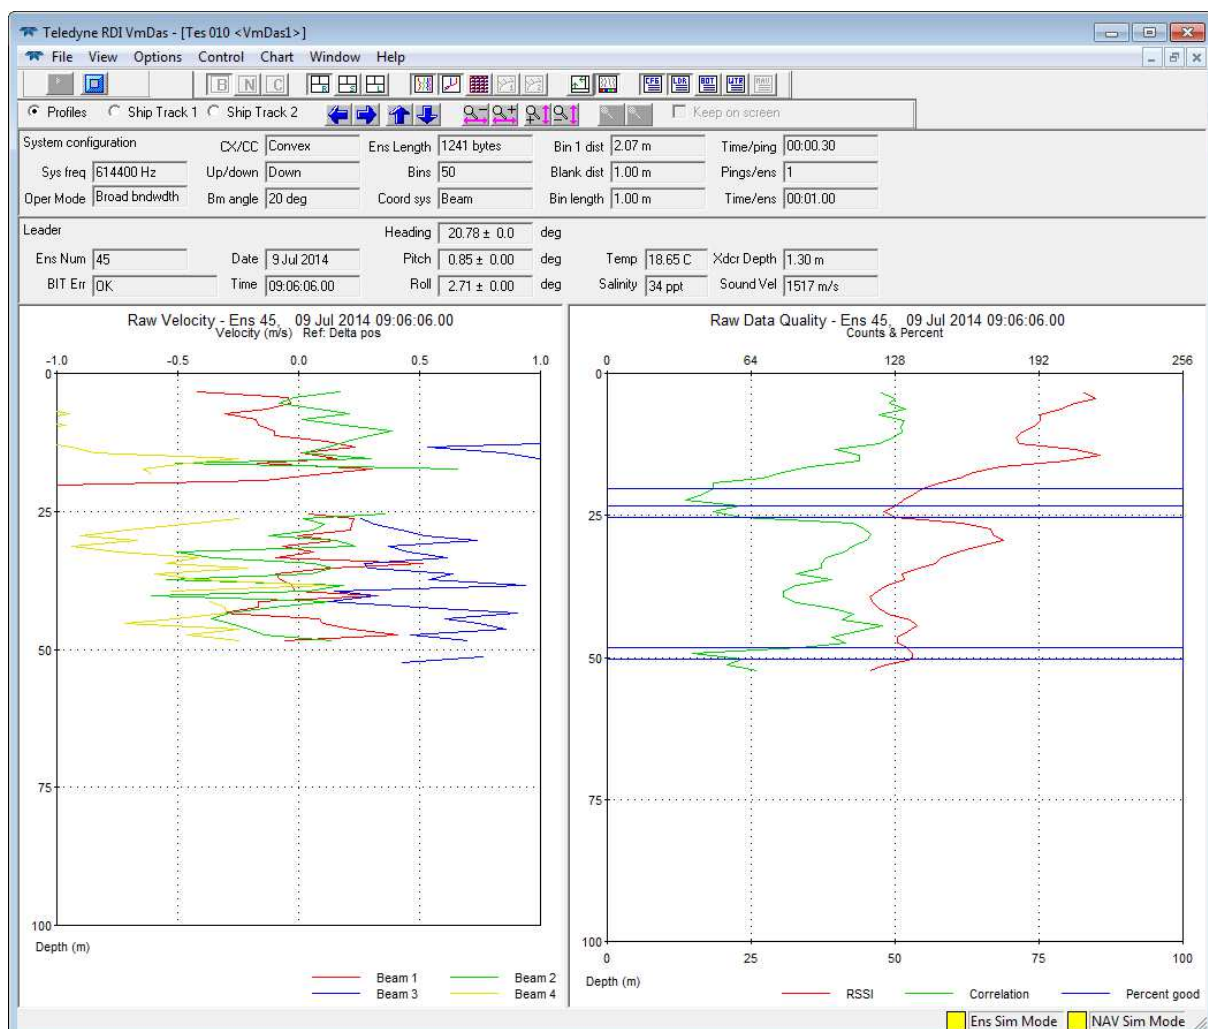

Figure 5: VmDas screen layout during data collection (raw display mode)
3. After checking the settings carefully **start the data acquisition.** Select the menu **File** → **Collect Data** or press the  button at the upper left of the main window. The data recording starts immediately and the screen looks about the same as the screenshot in Figure 5.